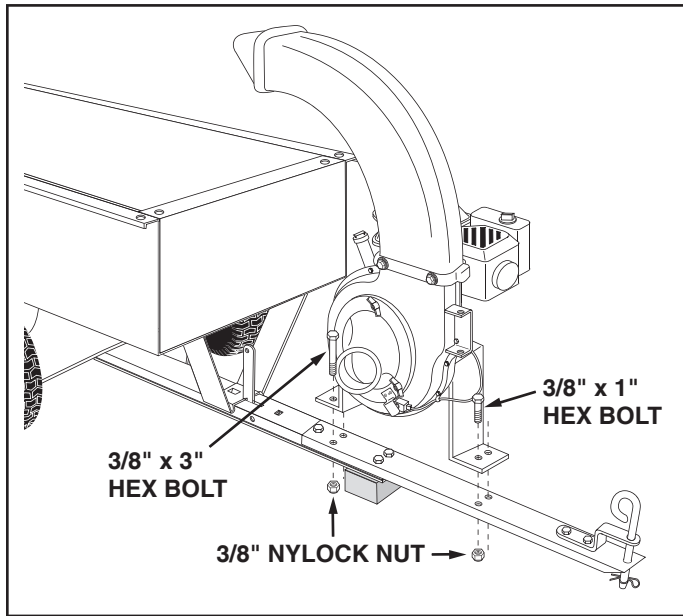

FIGURE 6
12. Assemble the engine to the tongue using two 3/8" x 3" hex bolts in the rear holes, two 3/8" x 1" hex bolts in the front holes and four 3/8" nylock nuts. See figure 6.